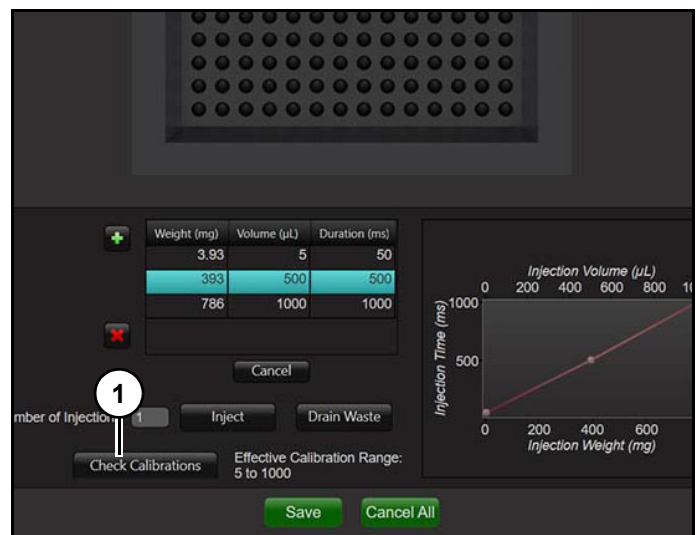

Figure 20
- Click "Check Calibration" (1) (Figure 20).